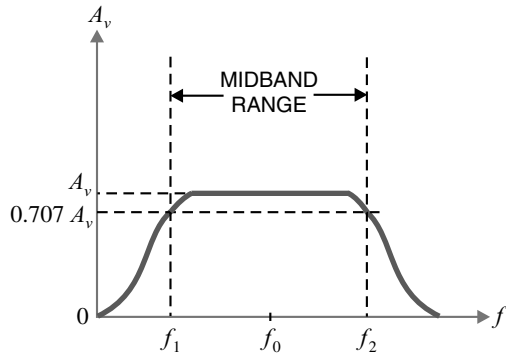

Fig. 9.16
The voltage gain of an amplifier changes with frequency. Referring to the frequency response in Fig. 9.16, it is clear that for any frequency lying between  $f_1$  and  $f_2$ , the voltage gain is equal to or greater than 70.7% of the maximum voltage gain ( $A_v$ ). Therefore,  $f_2 - f_1$  is the bandwidth. It may be seen that  $f_1$  and  $f_2$  are the limiting frequencies. The former ( $f_1$ ) is called *lower cut-off frequency* and the latter ( $f_2$ ) is known as *upper cut-off frequency*. For distortionless amplification, it is important that signal frequency range must be within the bandwidth of the amplifier.
**Centre frequency  $f_0$ .** The centre frequency  $f_0$  (also known as resonant frequency) is the frequency in the centre of the bandwidth as shown in Fig. 9.16 above. Note that voltage gain (or power gain) of an amplifier is maximum when the signal frequency is equal to  $f_0$ . As the signal frequency decreases from  $f_0$  towards  $f_1$  or  $f_2$ , the voltage gain (or power gain) begins to decrease slowly. By the time the signal frequency reaches either  $f_1$  or  $f_2$ , the voltage gain will drop to 70.7% of maximum voltage gain (or 50% of maximum power gain).